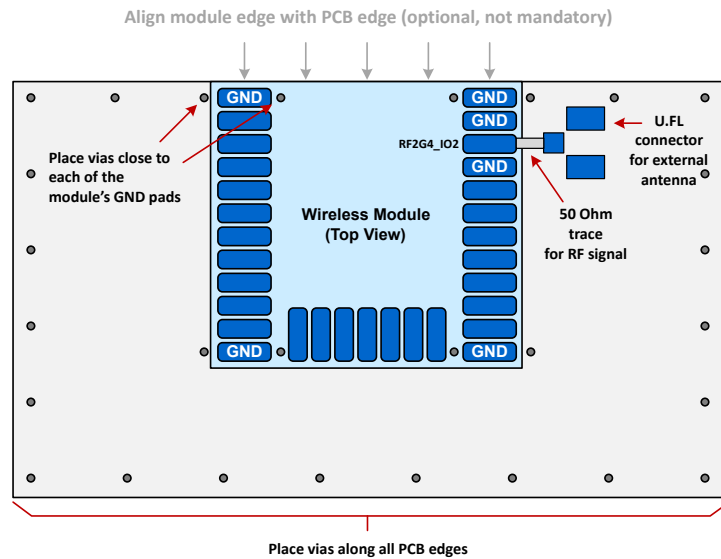

Figure 7.2. Recommended Layout for BGM210P Using External Antenna
- For external antenna use cases, use a $50\ \Omega$ grounded coplanar transmission line to trace the signal from the RF pin to an external RF connector if applicable (see Figure 7.2 Recommended Layout for BGM210P Using External Antenna on page 35).